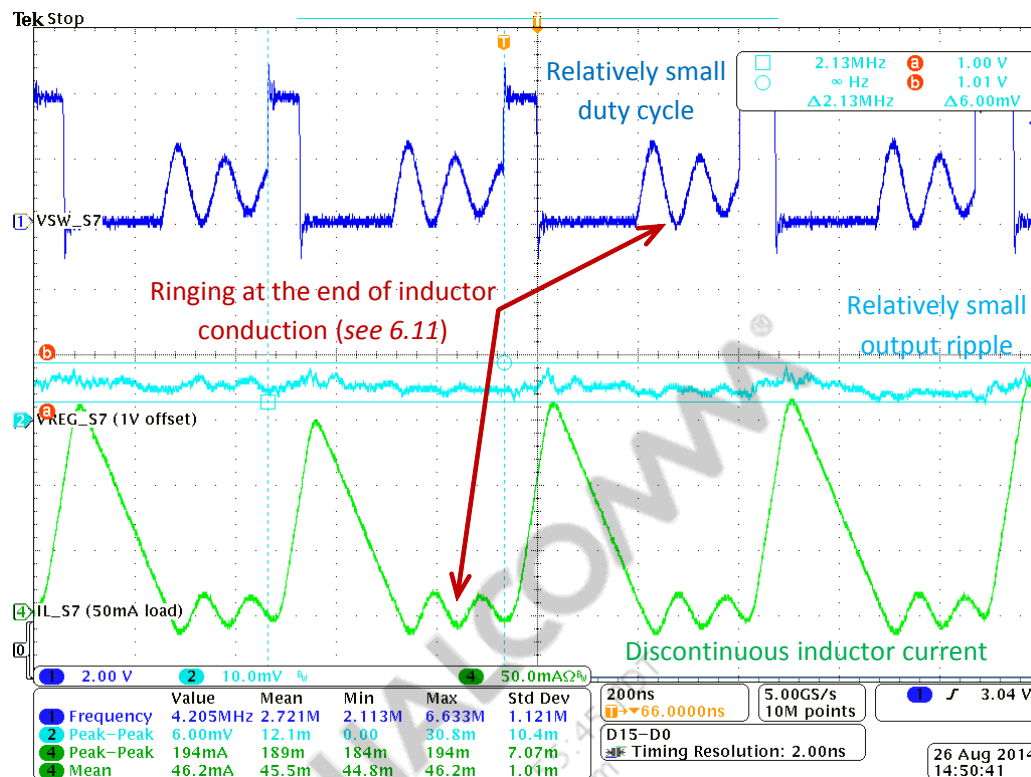

Figure 4 Waveforms of HF-SMPS in DCM PWM
■ **Figure 4** – DCM with $F_{sw} = 2.13 \text{ MHz}$